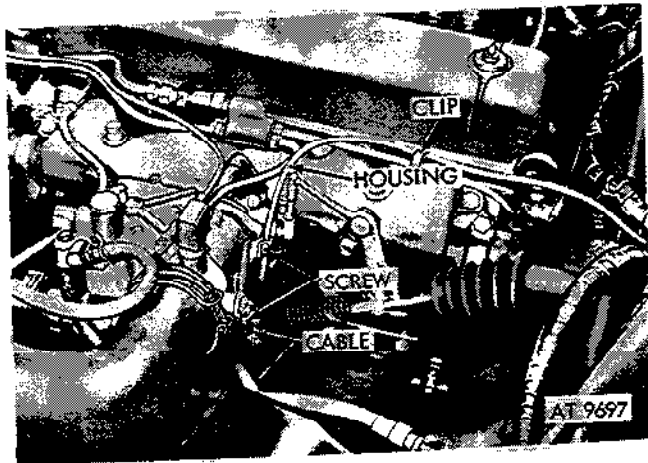

Figure 2-231. Remove housing and cable from carburetor.
(16) Loosen two screws securing choke control cable and cable housing. Remove housing to vent tube clip. Remove housing and cable from carburetor (fig. 2-231).
(14) Loosen two screws and remove clip that secures choke cable assembly to carburetor and vent line (fig. 2-231).